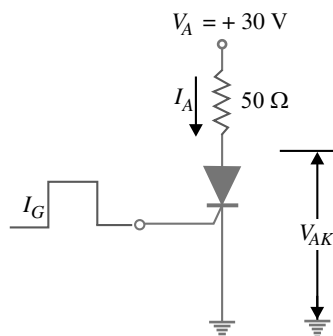

Fig. 18.36
10. The voltage drop across the SCR in Fig. 18.36 is  $1 \text{ V}$  when it is conducting. It has a holding current of  $2 \text{ mA}$  when  $I_G = 0$ . If the SCR is triggered on by a momentary pulse of gate current, to what value must  $V_A$  be reduced to turn the SCR off ? [1.1 V]